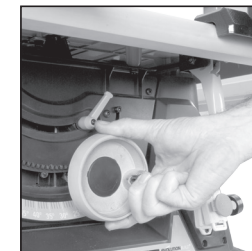

FIG. 12
- Turn clockwise to lower the blade. (Fig. 12)